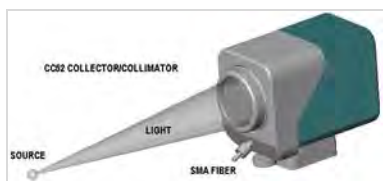

Figure 4: PCI card, Interface cables, CD & Users Manual/Certificate of Conformance
- PCI card for connecting the detector to the PC (see **figure 4** below)
- Interface cables (see **figure 4**):